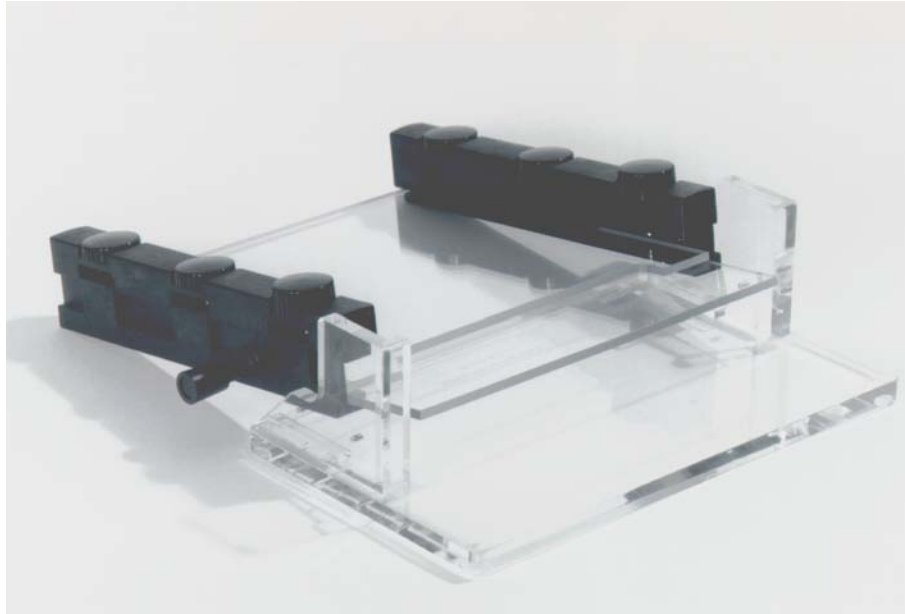

Figure 2-6. Rest the apparatus on the casting stand (25 cm or larger plates).
2. There is a notch on the back of each rail that allows the apparatus to rest on the uppermost metal posts on the casting stand (Figure 2-6). This slight incline improves the flow of the gel between the plates.